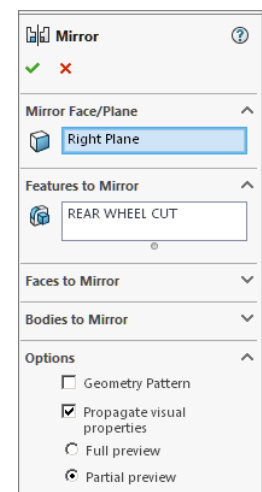

Fig. 110
Step 3. In the Mirror Property Manager click OK, Fig. 110.